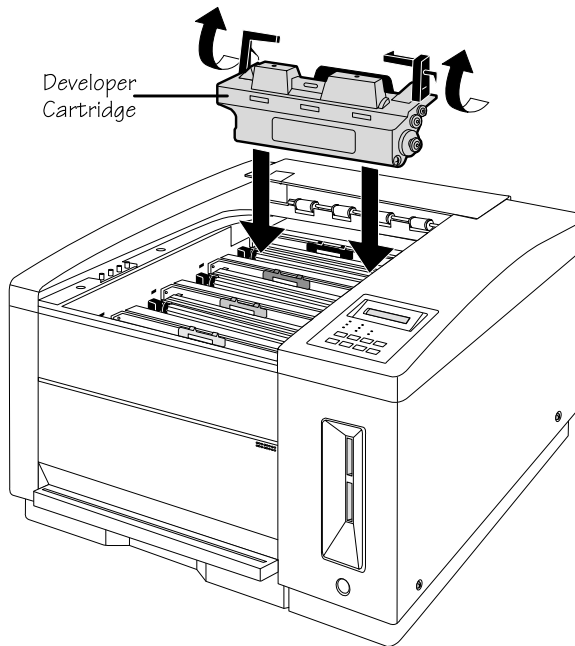

Fig. 2.7 Load Developer Cartridge (front view)
2. Grasp the two green latches, one at each end of the cartridge, and raise them straight up (fig. 2.7) to open them.
3. Holding the developer cartridge by the green latches, gently lower it into the open cartridge slot closest to the back end of the printer until it seats firmly under the securing latches (fig. 2.7).